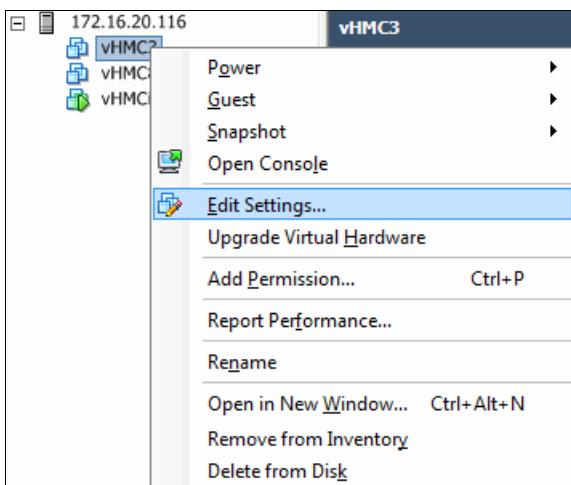

Figure 3-42 Edit VM settings
9. From the main vSphere panel, right-click the freshly deployed vHMC, and select **Edit Settings** (Figure 3-42).